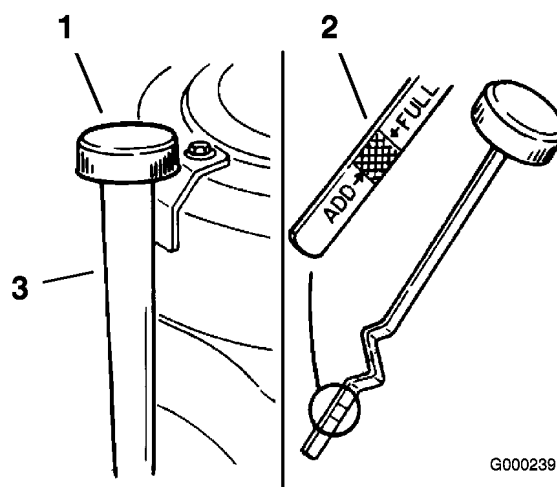

Figure 35
4. Clean around the oil dipstick (Figure 35) so that dirt cannot fall into the filler hole and damage the engine.
5. Unscrew the oil dipstick and wipe the end clean (Figure 35).
6. Slide the oil dipstick fully into the filler tube, but do not thread onto tube (Figure 35).
9. Slowly pour approximately 80% of the specified oil into the filler cap (Figure 35).